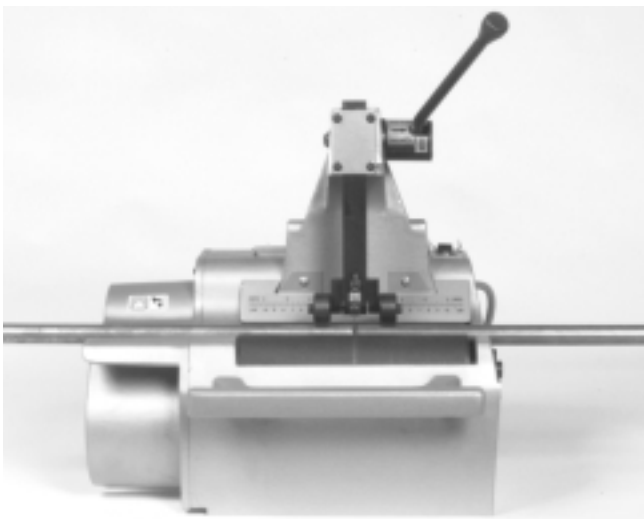

Figure 5 – Cutter Wheel Support Rollers Holding Tubing After Cut
8. Release pressure from the handle but still have the cutter wheel support rollers maintain contact with the tubing (*Figure 5*). The rollers will hold the tubing so it will not fall to the ground.